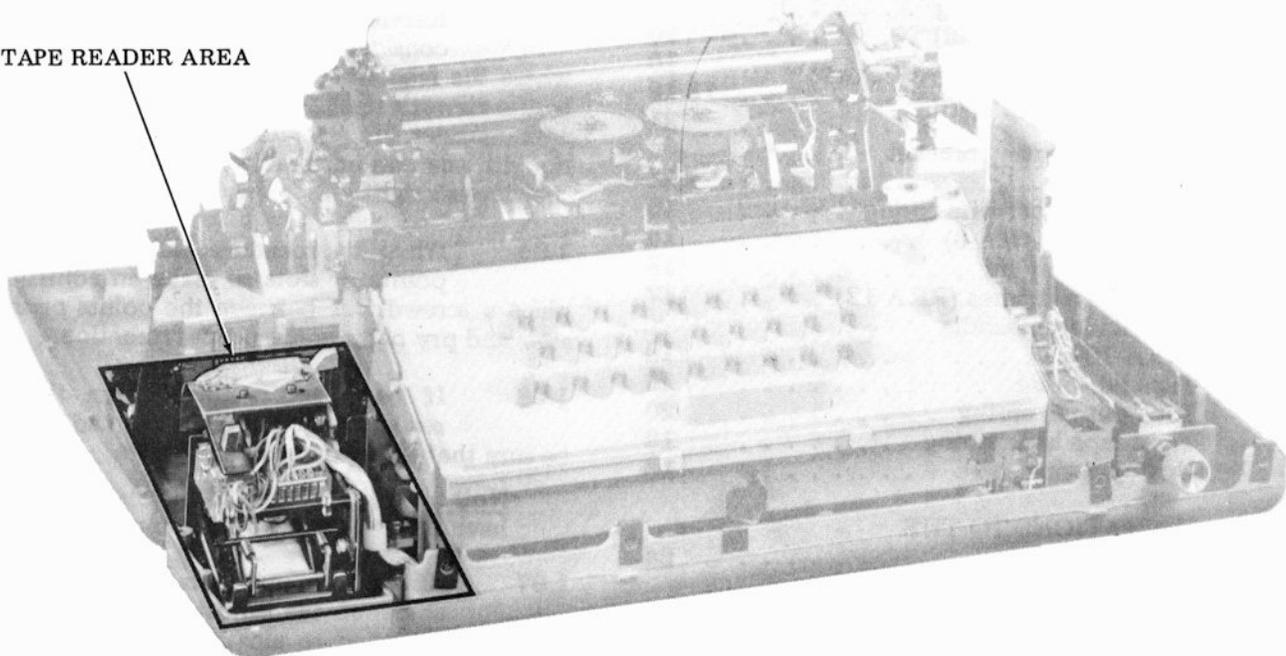

Figure 1 - Tape Reader Area
1.14 There are two areas in which tape reader adjustments and spring tensions are found. As aids in locating the areas, Figures 1 and 2 are provided. They indicate the areas as follows: